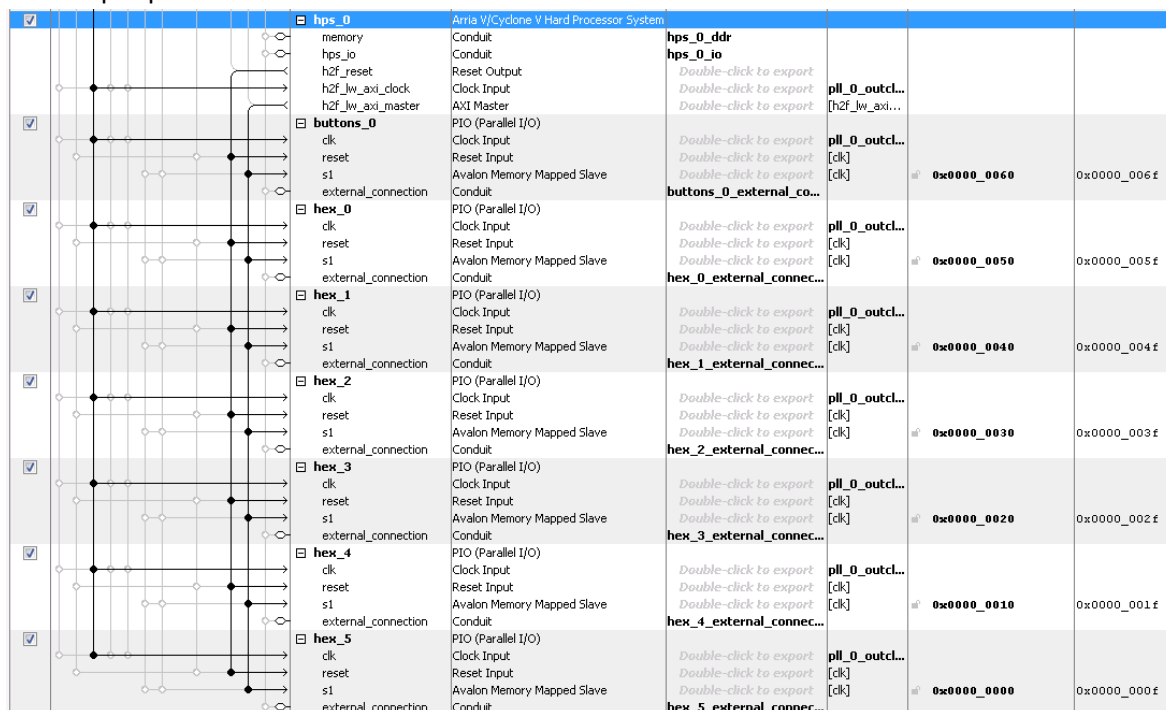

Figure 8-10. Adding Buttons and 7-segment Displays to the Lightweight HPS-to-FPGA Bridge
25. Connect the system as shown in Figure 8-10 below (we don't show the full system to make figures hold on one page). Notice that we use "hps_0.h2f_reset" as the reset signal for the components